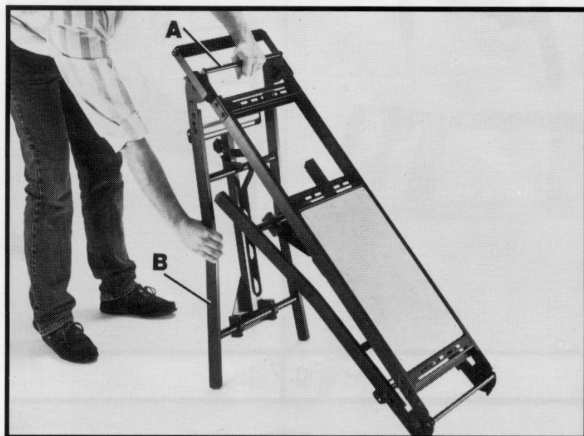
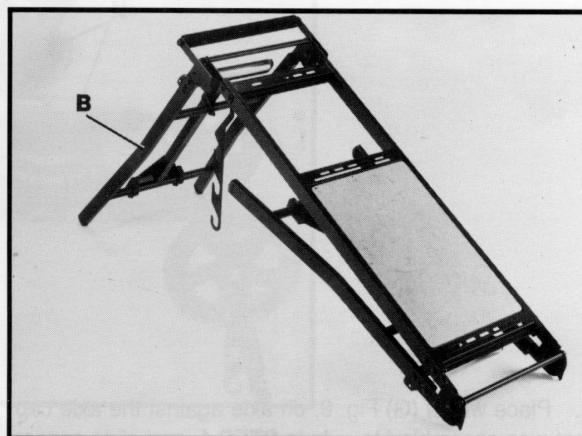

Fig. 3
Fig. 4
1. Lift up bar (A) Fig. 3, and pull out leg (B) until leg (B) locks in place as shown in Fig. 4. **NOTE:** For best results stand directly behind leg when opening, as shown in Fig. 3.